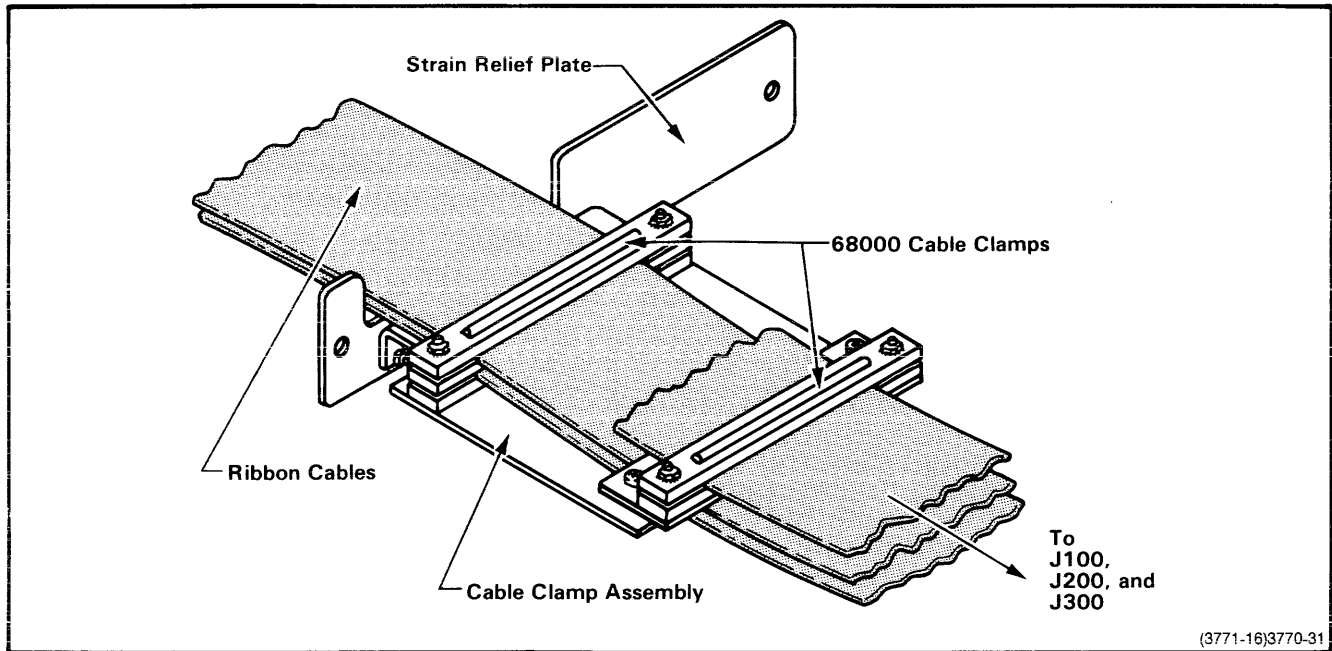

Fig. 9-6. Ribbon cable installation.
12. Make sure you have allowed enough ribbon cable to reach the Cable Termination board (already attached to EMU 1), which is now located in the development system's card cage. Then mount the long Prototype Control Probe ribbon cables to the cable clamp assembly, using the new clamps provided. Secure the cable clamps with hex nuts and lock washers. Refer to Fig. 9-6.